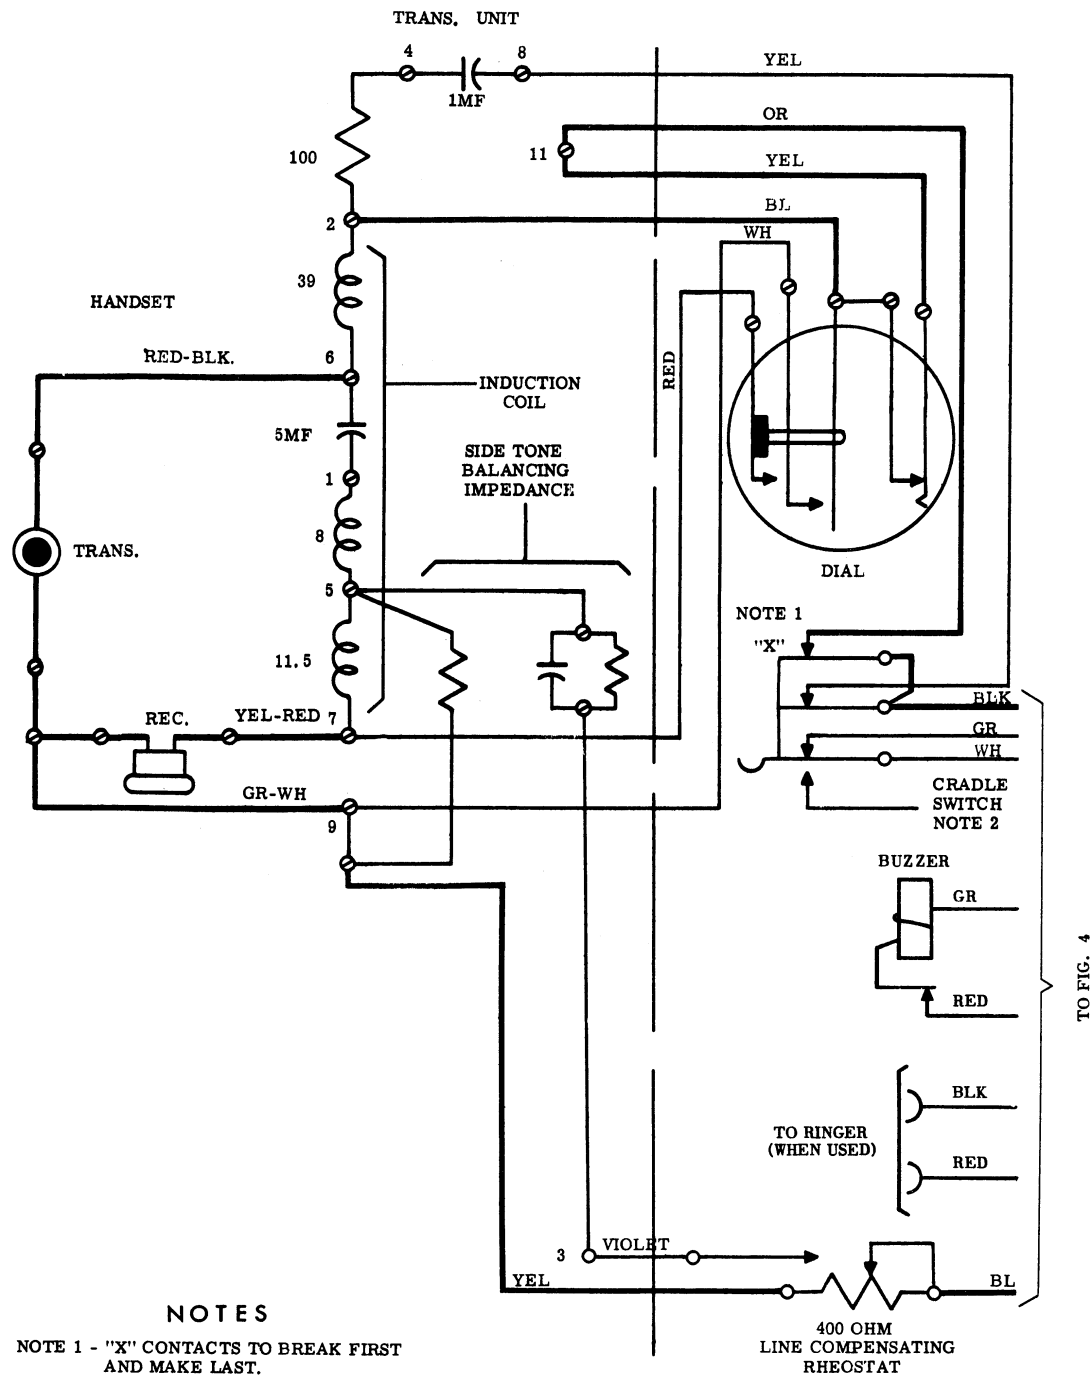

Fig. 5. Type 86 Telephone Circuit Diagram (Manually Adjusted)
- a. If the first two letters are NA, the circuit is equipped with an external line compensating rheostat (See Figure 5 for circuit drawing).